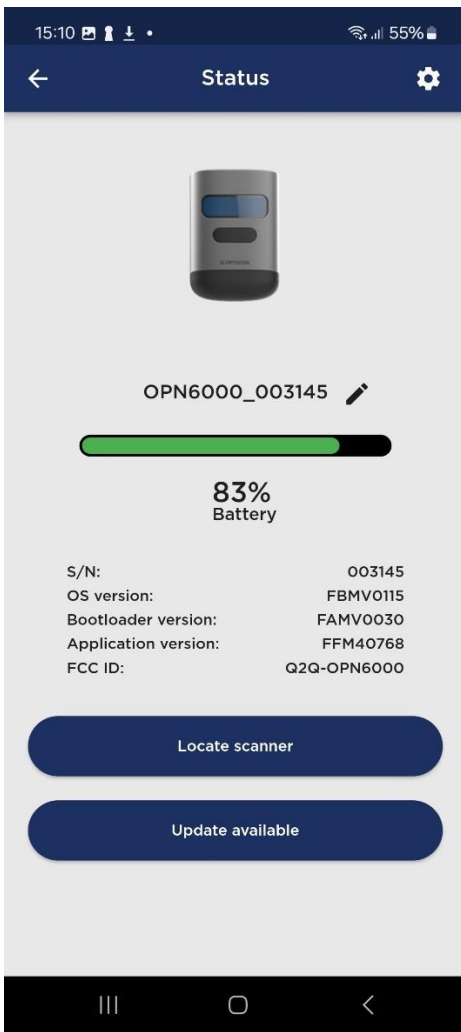

Figure 11-2: The *Status* page where the *Update available* button is available.
- On the device status page, you will see an *Update available* button if a firmware update is available for your scanner. Click on this button to navigate to the *Firmware update* page (see Figure 11-2).